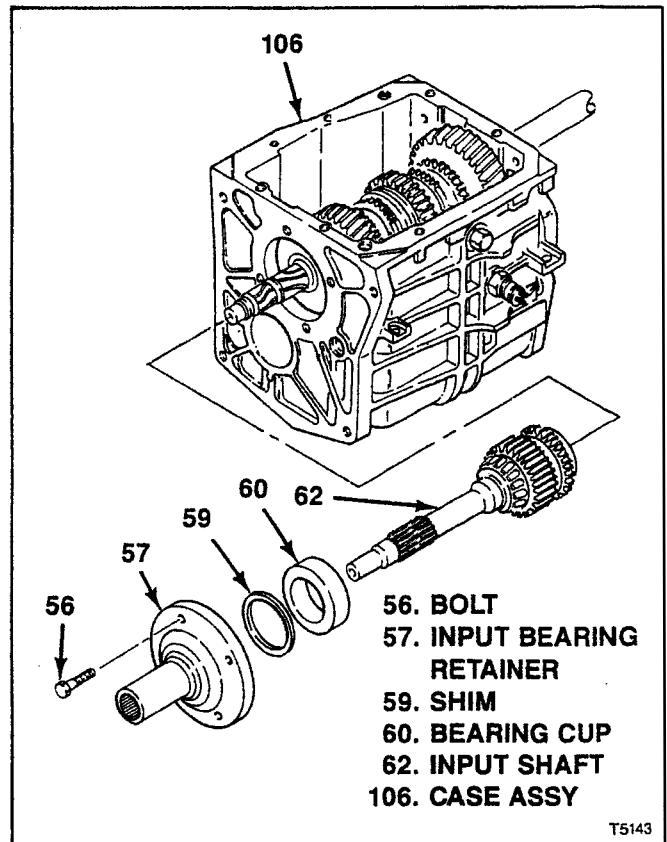
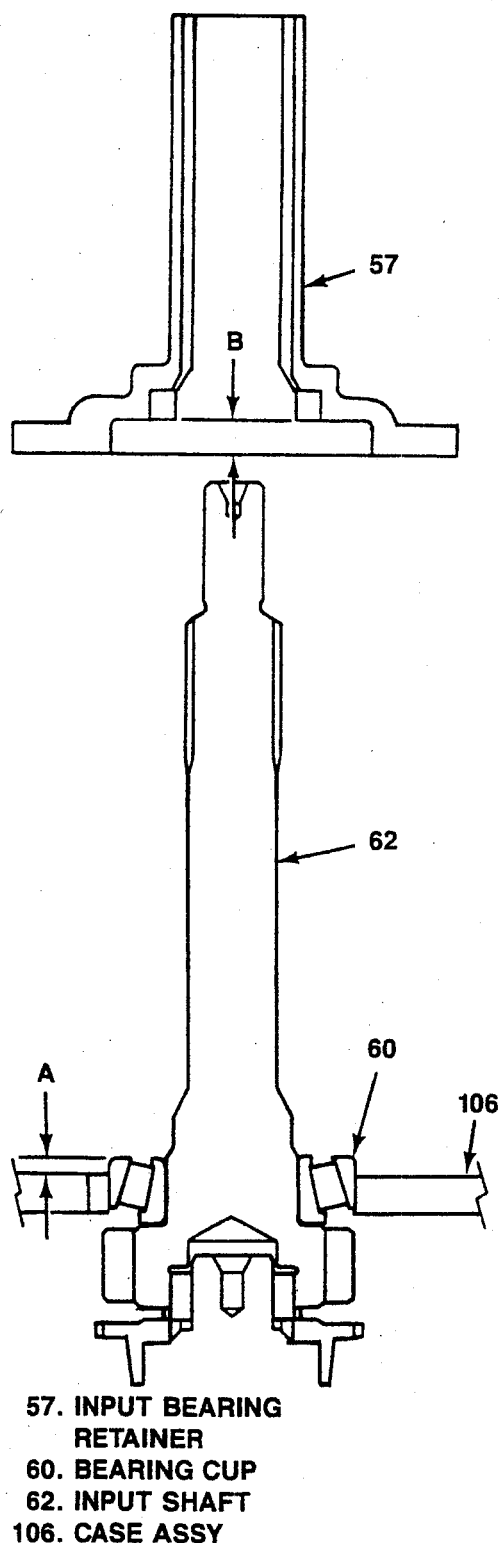

Figure 7-21. T5 NWC Bearing Preload Adjustment
Figure 7-22. T5 NWC Bearing Preload Measurements
7-19. ADJUSTMENT OF T5 NWC INPUT/OUTPUT SHAFT BEARING PRELOAD. With both input bearing retainer and extension or adapter installed as described in preceding paragraphs, adjust input/output shaft bearing preload as follows (see figure 7-21 and 7-22):
b. Remove bolts (56, figure 7-21) attaching input bearing retainer (57) and remove bearing retainer.
c. Using hand pressure, press down firmly on input shaft (62) and bearing cup (60) to ensure that power train parts in transmission are fully seated.
d. Using suitable depth micrometer measure and record the following (see figure 7-22):